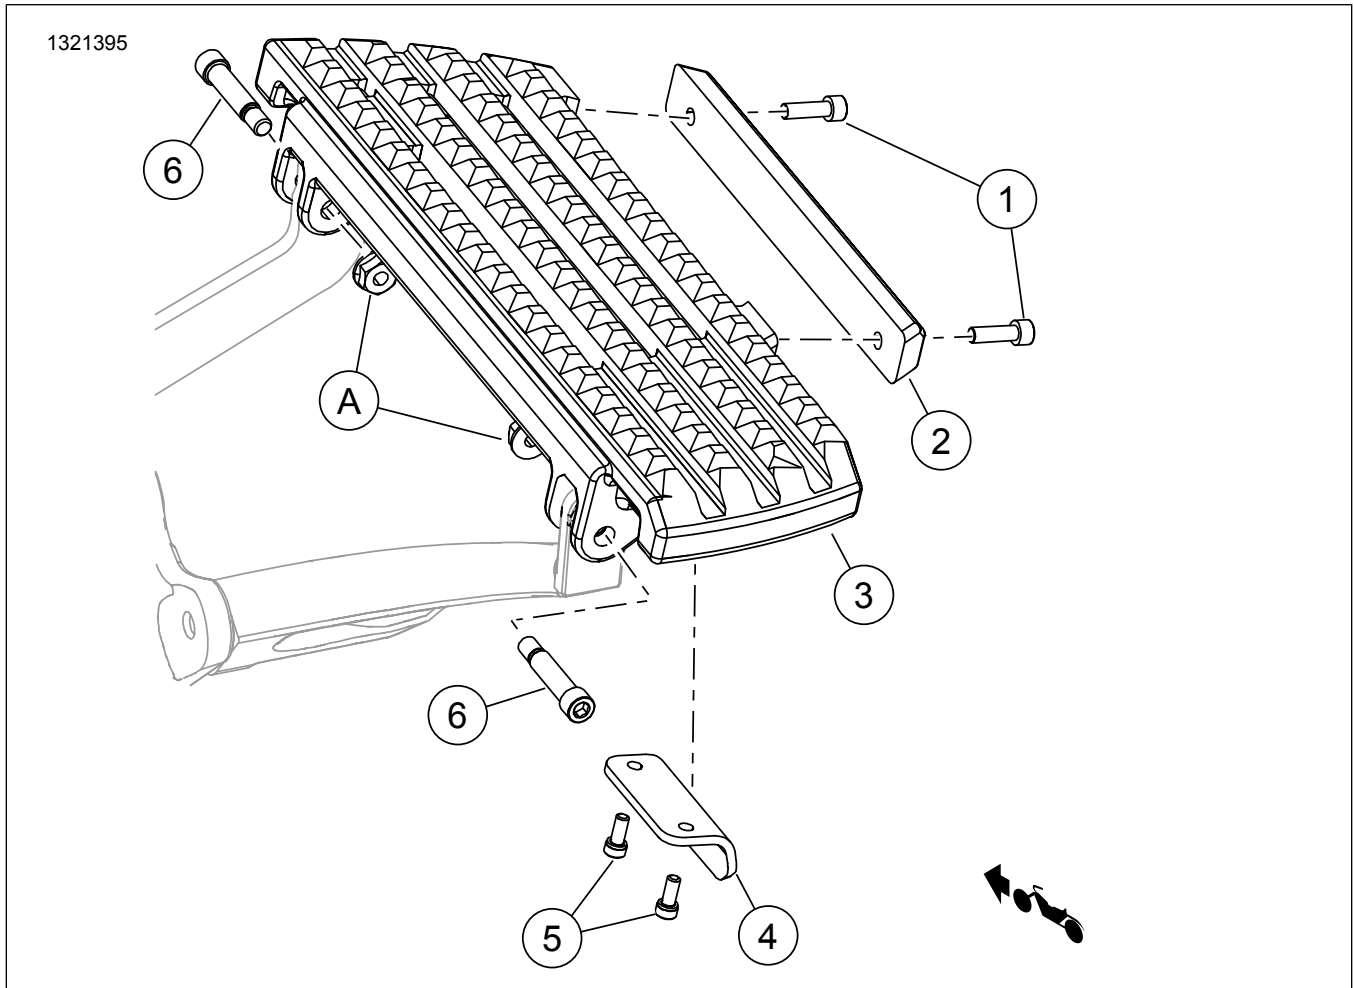
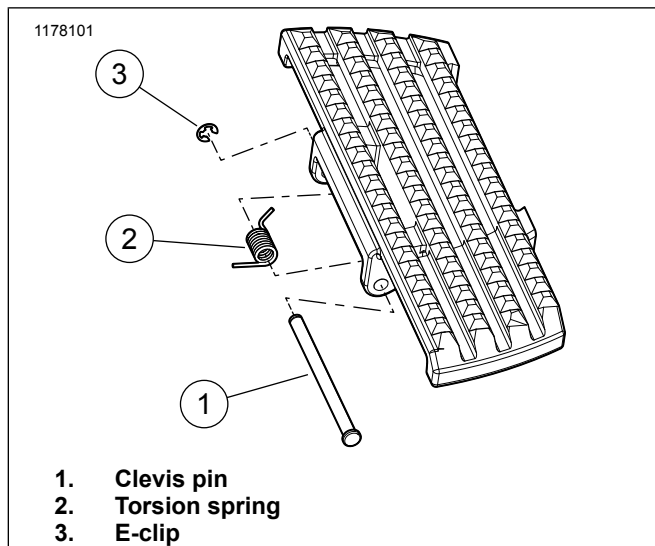

Figure 1. Kit Contents: Rider Footboard Components
Figure 2. Rider Footboard Installation
1. **Kits 50500869, 50500872:** See Figure 2. Remove footboard.
- a. Remove e-clip (3), clevis pin (1), and torsion spring (2).
2. **Kits 50501294, 50501295:** See Figure 1. Remove footboard.
- a. Remove shoulder bolt (6) and nut (A).
- b. Retain nuts (A) for reuse.
2. See Figure 2. Install footboard.
- a. Insert short end of torsion spring (2) into forward most hole in footboard.
- b. While holding torsion spring (2) in place, install footboard and spring onto mounting bracket.
- c. Install clevis pin (1).
- d. Install e-clip (3).
2. See Figure 1. Install footboard.
- a. Install **new** shoulder bolt (6) and footboard.
- b. Apply threadlocker and install nut (A). Tighten.